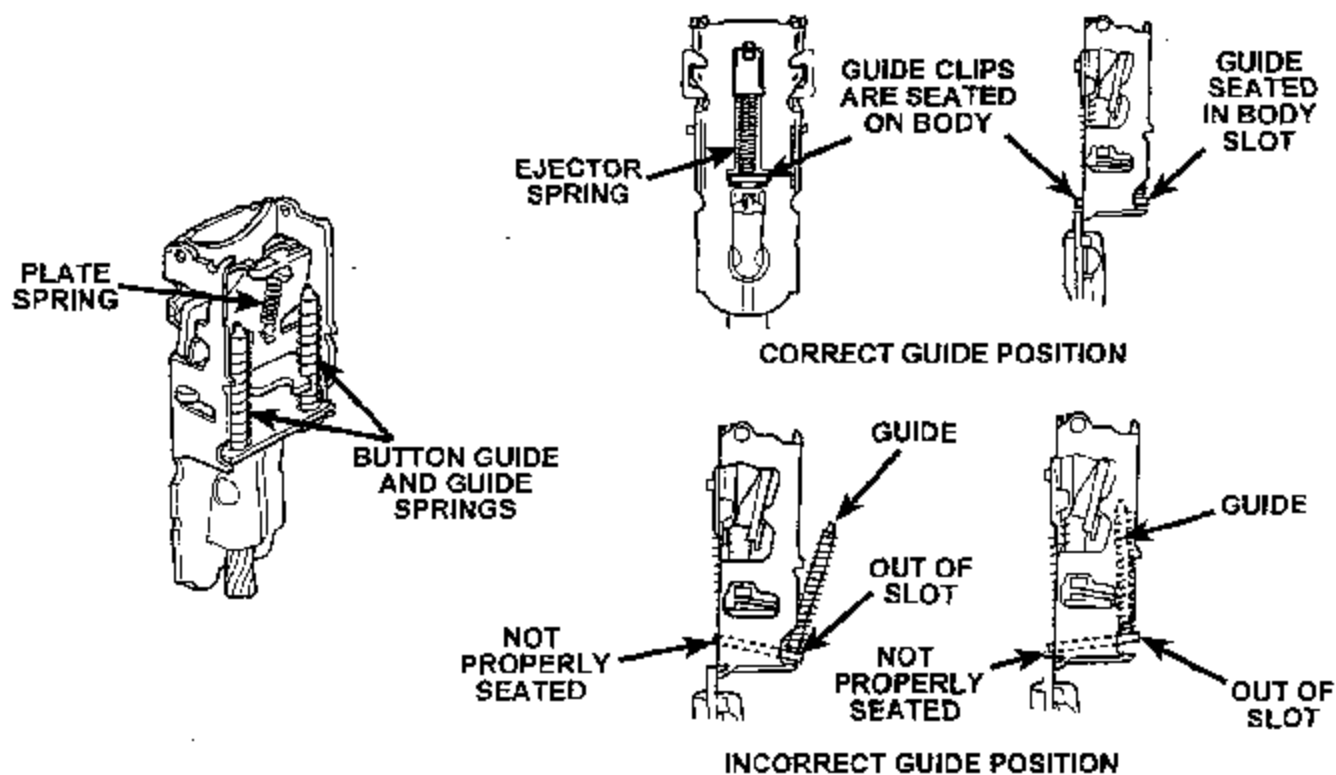

FIGURE 6
12. Inspect the buckle mechanism to insure that the button guide and guide springs are properly assembled and that all debris is removed. Make sure guide is properly seated in the body slot and clips are seated on body (Figure 6).